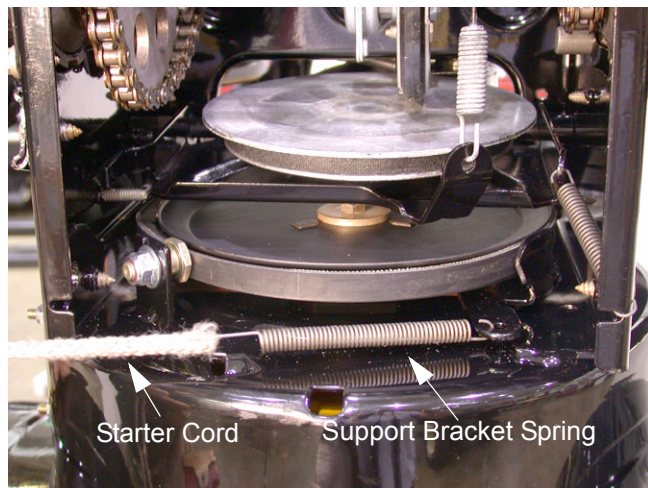

Figure 16
- 8.7. Using a piece of starter cord, unhook the support bracket spring from the frame. See Figure 16.